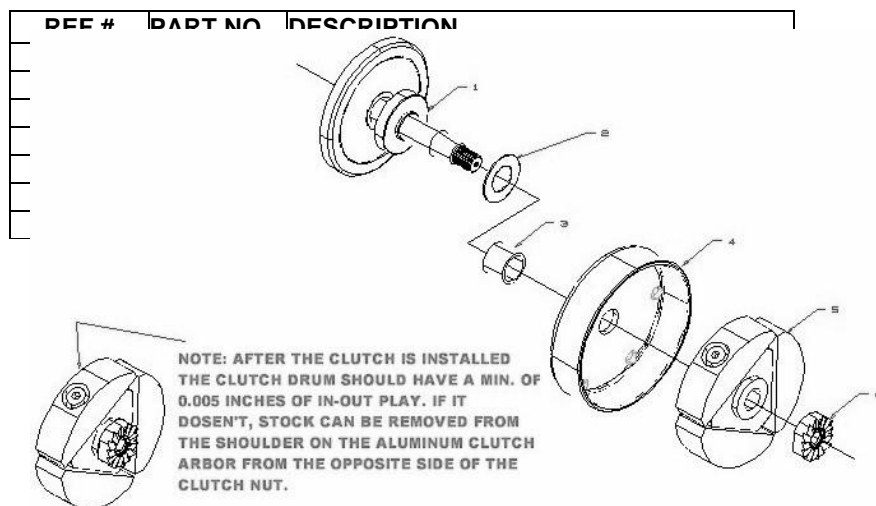

Figure 25, Clutch Assembly Drawing
7. Apply high strength (red) thread locking agent to the threads and install the nut and torque to 35 ft-lb (47Nm) with the special socket (see figure 25).